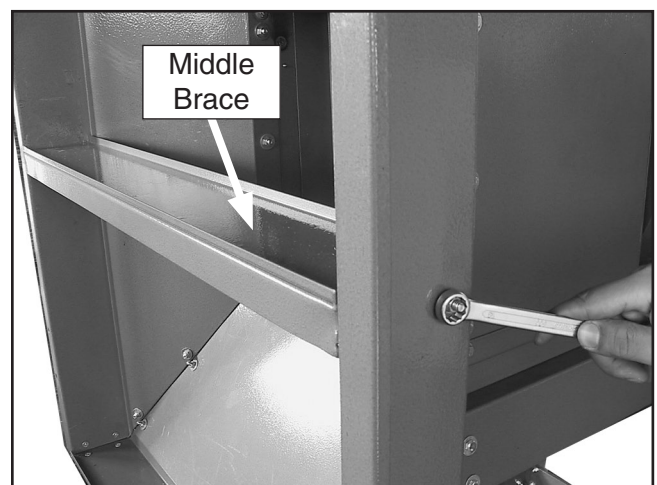

Figure 12. Installing middle brace.
- Place the middle brace between the right and left skew boards, align the mounting holes, and fasten each side with two $\frac{1}{4}$ "-20 x $\frac{5}{8}$ " flat head screws, two flat washers and two hex nuts as shown in **Figure 12**.